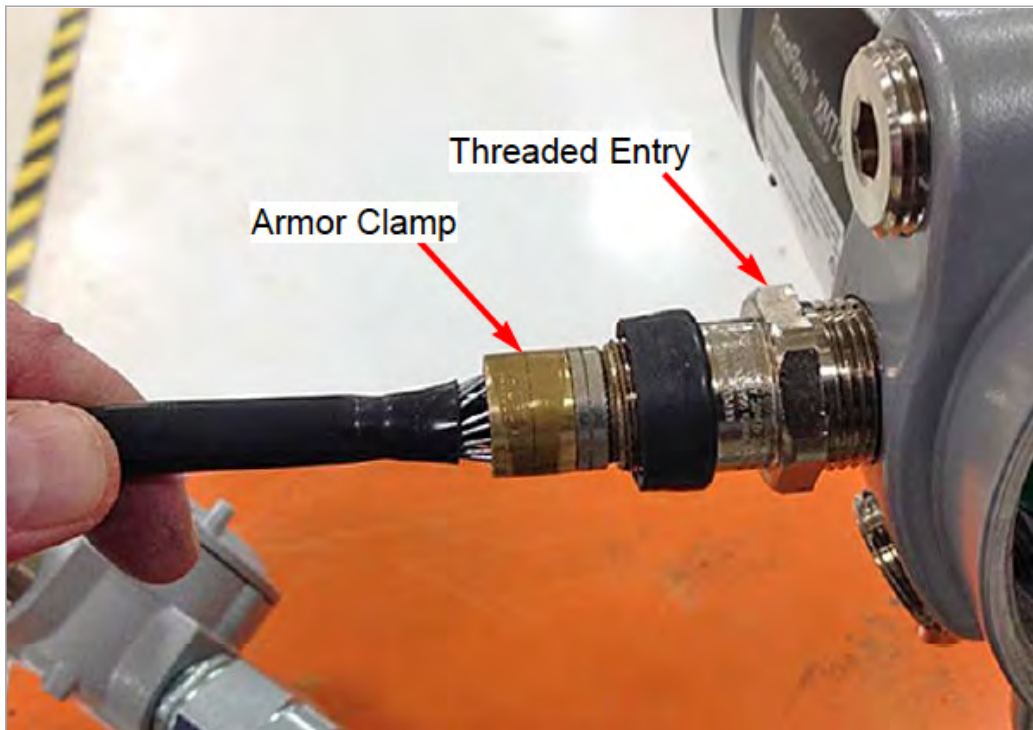

Figure 8: Inserting the armor clamp into the gland
5. Push the *Coaxial Cable* into the gland until the *Armor Clamp* is fully inserted into the *Threaded Entry* section. (see *Figure 8* below).